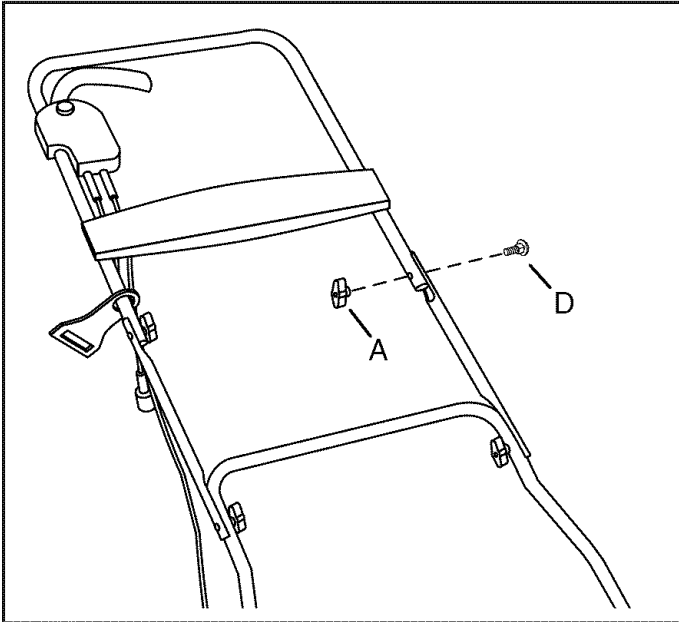

FIGURE 5
STEP 5: (SEE FIGURE 5)
- Attach the upper handle tube to the middle handle tubes using two carriage bolts (D) and wing knobs (A). Keep the cord minder above the carriage bolt and wing knob while assembling.